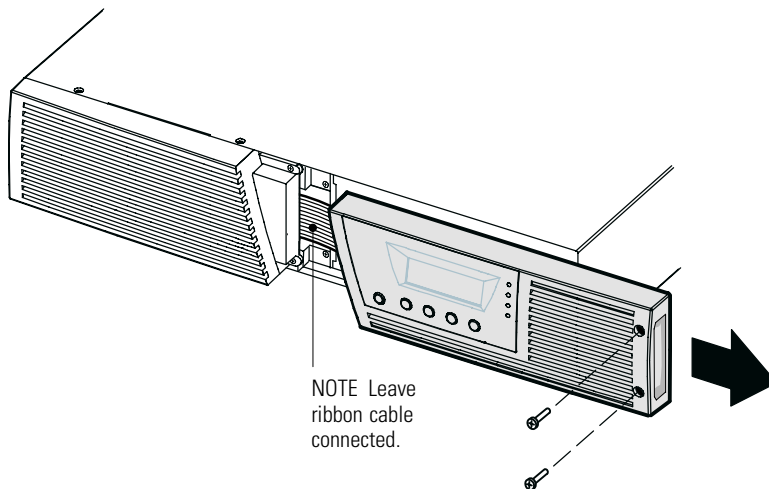

Figure 9. Removing the UPS Right Front Cover
1. Remove the UPS right front cover (behind the LCD control panel). See Figure 9.